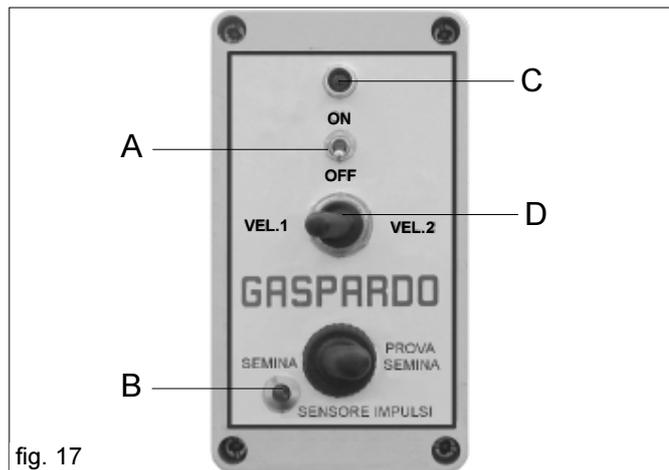

fig. 17
The loading of seeds in the hopper must always be carried out with the equipment (Harrow + Vitigreen) resting on the ground and with the rear roller locked. **Climbing onto the rear roller is forbidden.** Switch (A Fig. 17) on the console must be in the OFF position and the 12V supply cable disconnected. Load the seed into the hopper from the side of the equipment.
- Check that switch (A Fig. 17) on the console is in the OFF position.
- Set switch (D Fig. 17) to "Sowing test";
During sowing, the detection of the pulses, and consequently actual seed distribution, will be indicated by a LED (B Fig. 17) on the consol.
- 8) **Never leave live electrical parts. Make sure the LED (C Fig. 17) is off.**